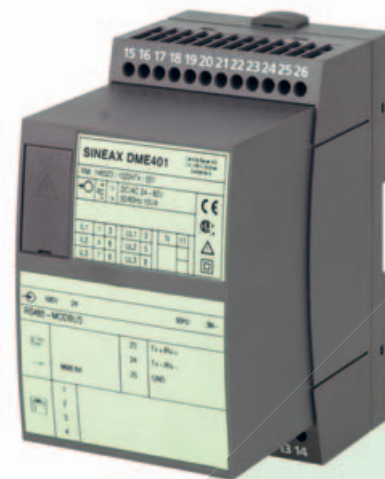

Fig. 1. SINEAX DME 401 in housing **T24**, clipped onto a top-hat rail.
**SINEAX DME 401** (Fig. 1) is a programmable transducer with a **RS 485 bus interface (MODBUS®)**. It supervises several variables of an electrical power system **simultaneously**.